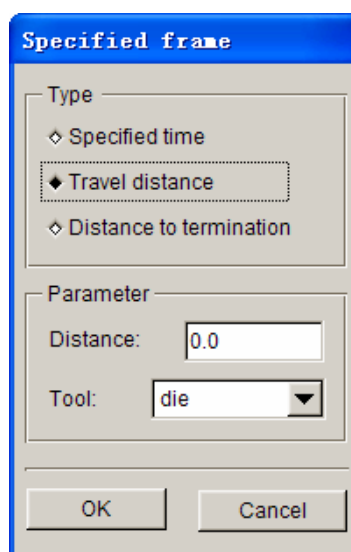

Figure 8.2.80 Define Output Frame by Tool Travel Distance
**TRAVEL DISTANCE:** Add an output frame by specifying travel distance of the tool. See Figure 8.2.80 for the interface of this option. The user may specify a reference tool in tool pulling-down list, then enter a distance value in the DISTANCE input box. This distance value is the distance of the tool travel from the beginning of current stage.